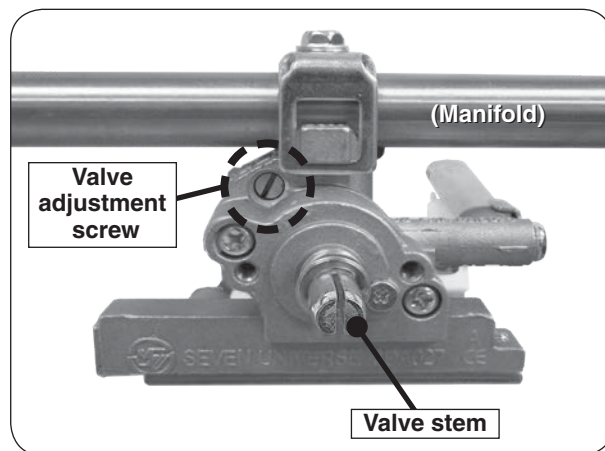

Fig. 33-1 Valve adjustment screw location
5. Locate the FLATHEAD adjustment screw found above the valve stem and below the manifold (see Fig. 33-1).